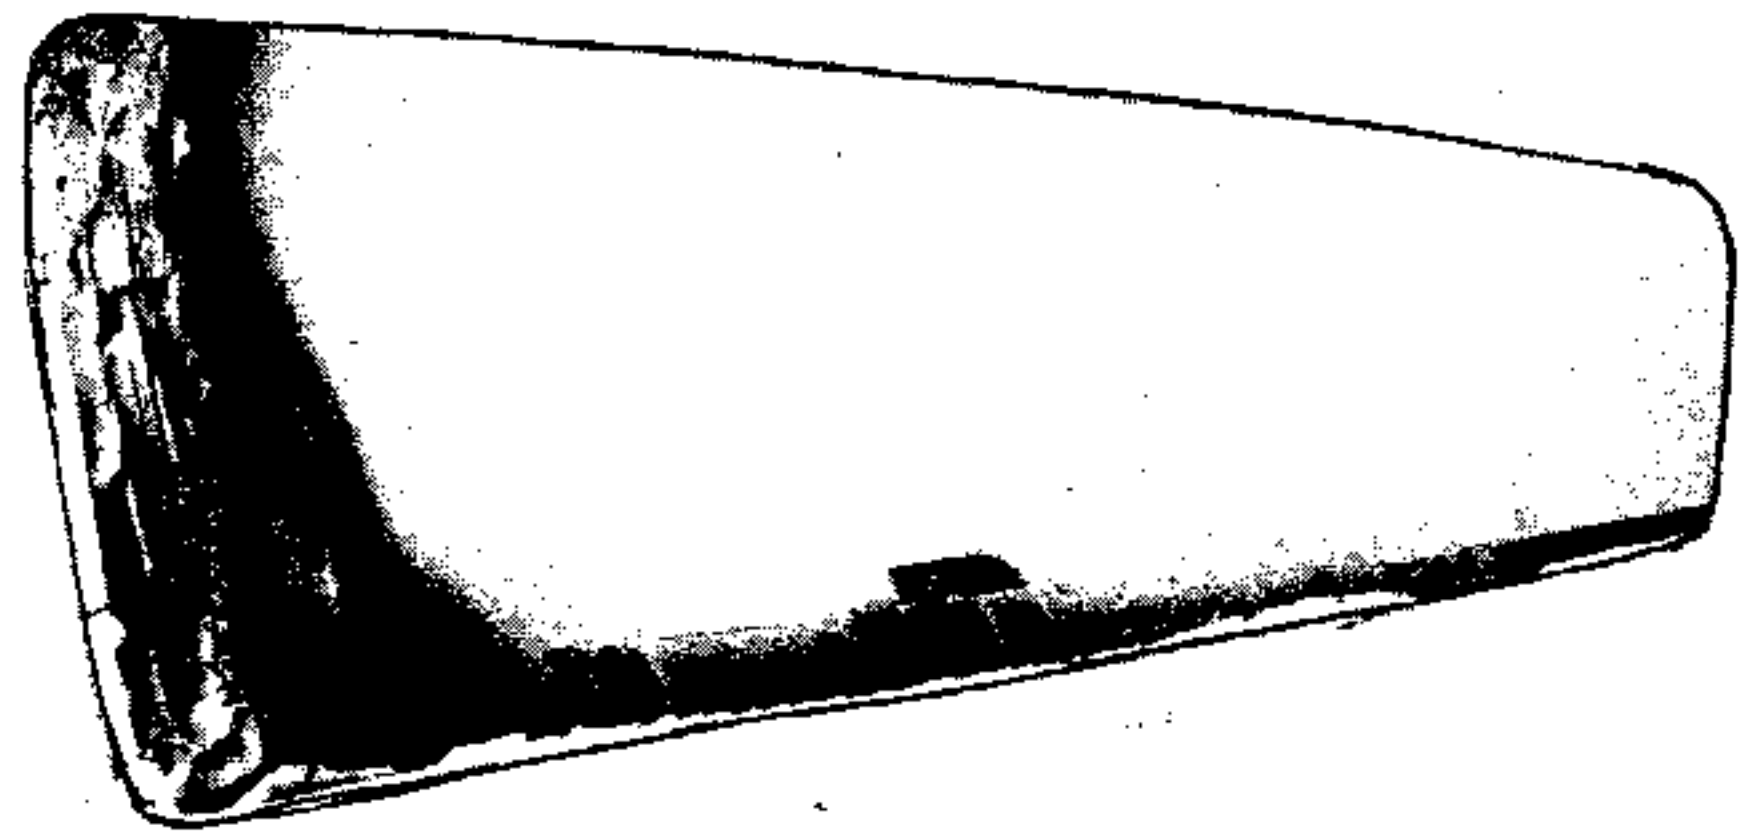

FIGURE 2
3. Using the chisel and hammer (air chisel is desirable), cut away body metal structure leaving an opening shaped exactly like that in the exterior body panel (See Figure 2).